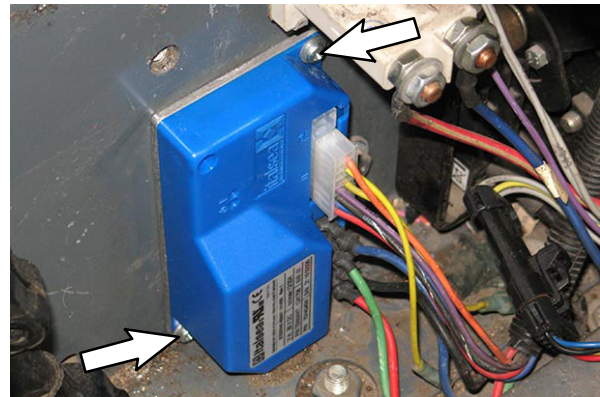

FIG. 22
22. Use two M4 pan screws (15) to install the new steering controller (14) onto the steering support channel. (Fig. 22)